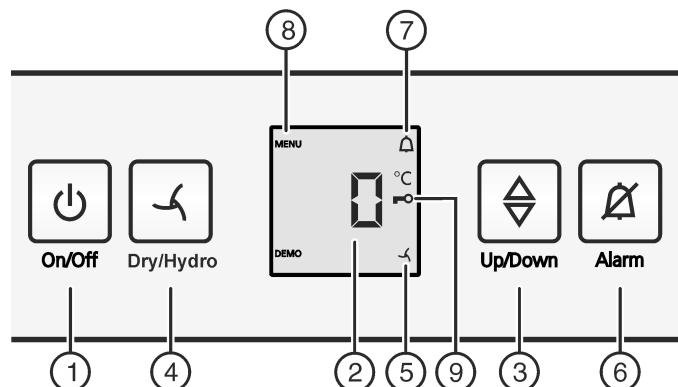

Fig. 2
- Press On/Off button Fig. 2 (1).
- To activate setting mode: press the Dry/Hydro button Fig. 2 (4) for approx. 6 seconds.
- The menu symbol Fig. 2 (8) shines.
- Briefly press the Dry/Hydro button Fig. 2 (4) to confirm.
- Briefly press the Dry/Hydro button Fig. 2 (4) to activate the child lock.
- The child lock symbol Fig. 2 (9) shines. **c** flashes in the display.
- Briefly press the Dry/Hydro button Fig. 2 (4) to deactivate the child lock.
- The child lock symbol Fig. 2 (9) goes out. **c** flashes in the display.
- To deactivate the setting mode: Press the On/Off button Fig. 2 (1).
- Press alarm button Fig. 2 (6).